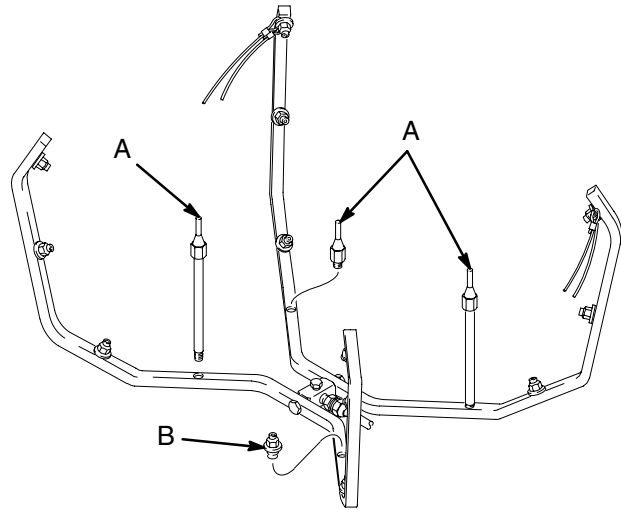
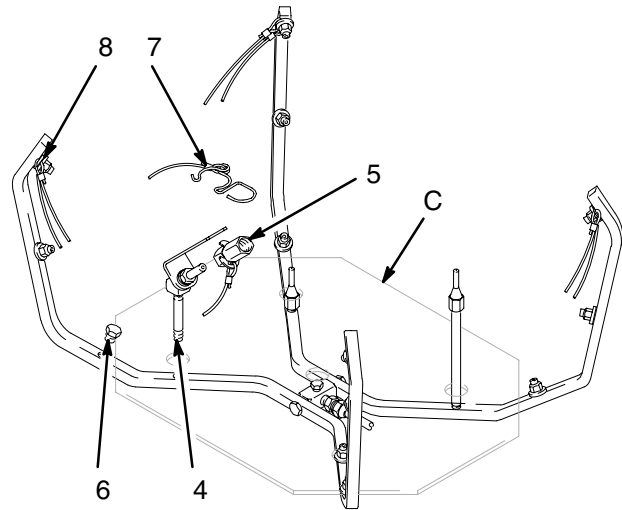
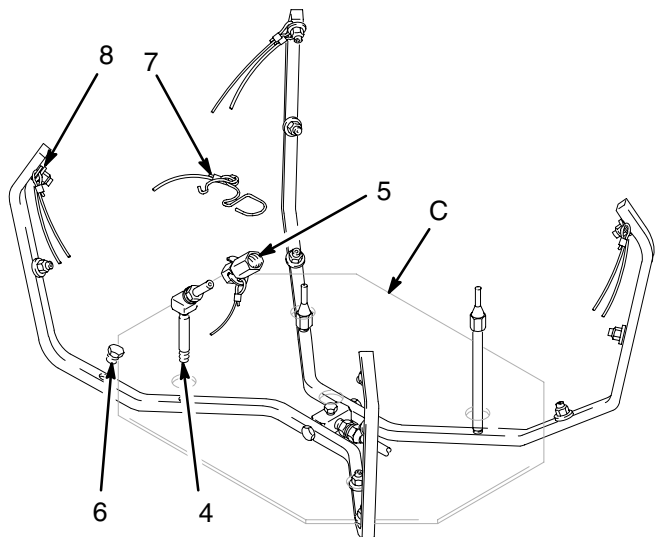

Fig. 1
Fig. 2
Fig. 3
2. Remove a gun support (A) or spray nozzle (B) from one of the four cleaning stations. See Fig. 1.
3. Remove the spray nozzle that is next to the station where you will install the gun support (4) and install the plug (6). See Fig. 2 for the PRO AA4500 gun and Fig. 3 for the PRO Xs4 AA gun.
4. With the metal platform (C) in place, screw the gun support (4), supplied with the kit, into the 1/8" npt hole. Orient the support so it faces the center of the gun washer.
5. If the gun support (4) replaced a spray nozzle (B—See Fig. 1), install the trigger lock (7) and fluid inlet adapter (5) to use with the fourth gun station. See Fig. 2. Place the wire loops on the snap ring (8) and snap it around an open spray nozzle.